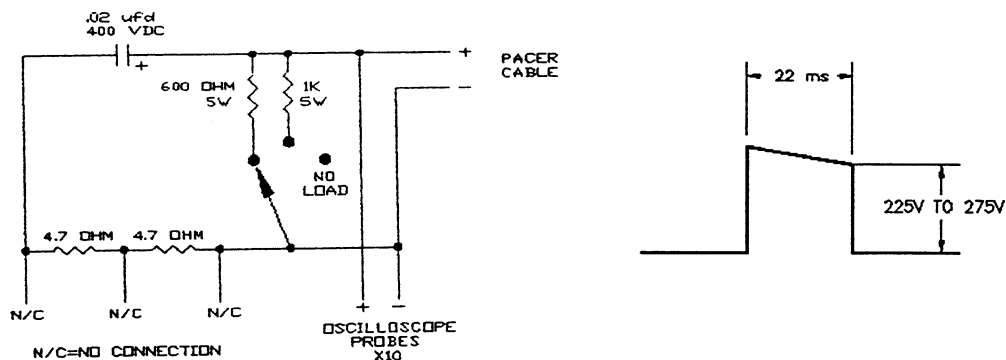

FIGURE 9.5
19.1 Using the test circuit shown below (Figure 9.5) with no load resistance in the circuit, using a X10 probe, connect to oscilloscope set for 5 volts/div and sweep 5 ms. Observe 225 to 275 volts on the oscilloscope at the measurement point.